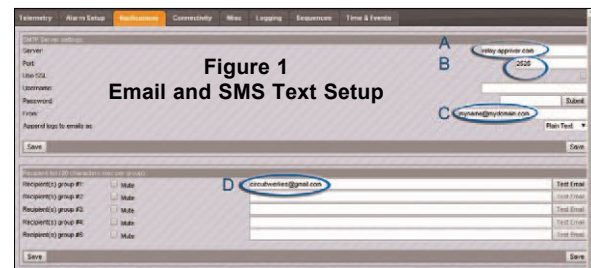

Figure 1
In our devices, setup for this is done in three steps. First, we setup our general email settings which include the SMTP server data (A), port number (B) and reply address (C). We also have to enter the email addresses or SMS text addresses of those we want to receive emails (D). See **Figure 1**.